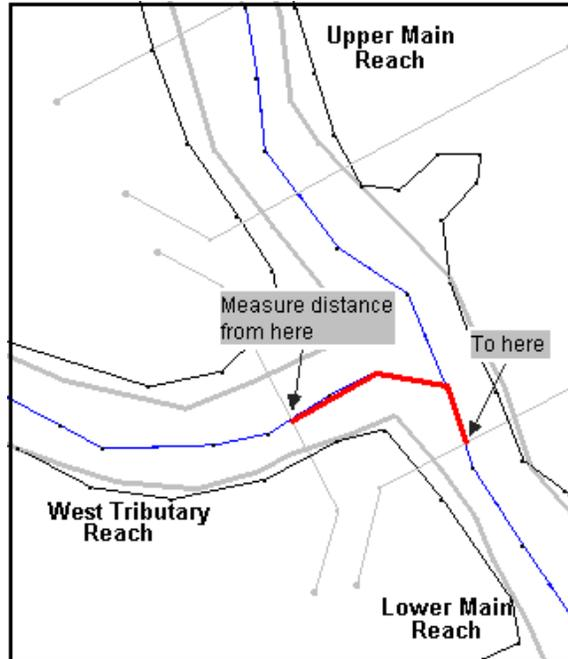

Figure 7 Measuring Junction Lengths
7. Click along the lines to trace the distance along the centerline arc between the most downstream cross section arc on the West Tributary reach and the most upstream cross section arc on the Lower Main reach. Double-click to end the measurement. (Similar to Figure 7.) Note the length displayed in the lower left hand corner of WMS for step 9.